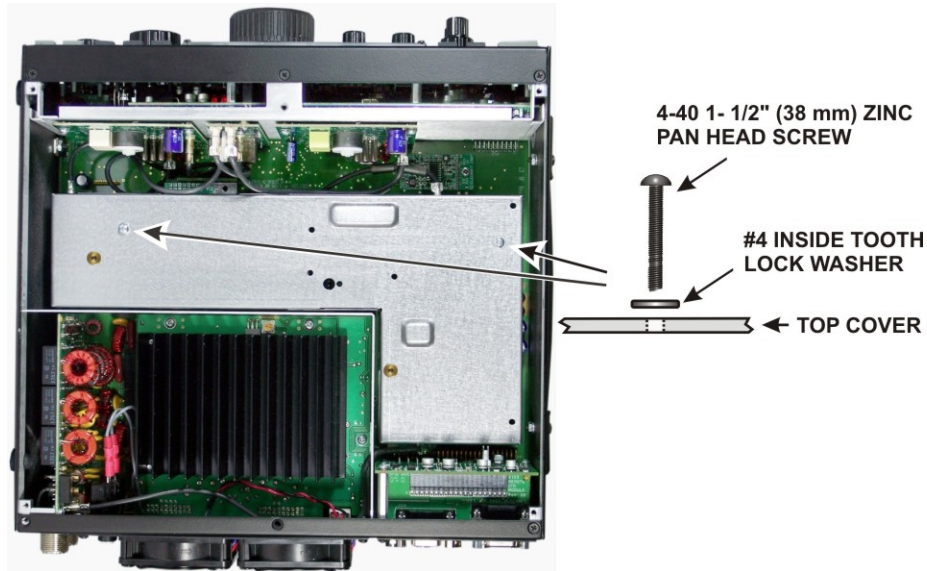

Figure 2. Removing the KRX3 Module.
If your K3 is equipped with the optional KRX3 Subreceiver, you must remove the subreceiver module to install the KAT3. The KRX3 subreceiver module is the “L” shaped metal enclosure (see Figure 2). Remove the subreceiver module as follows:
- Remove the two 1-1/2" (38 mm) screws and lock washers shown in Figure 2. These screws extend all the way through the KRX3 module and secure it to standoffs mounted on the main RF board that fills the bottom of the K3.